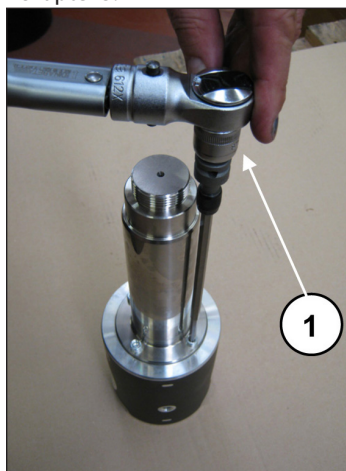

Fig. 44
Lock the piston guide in a vice with the aid of a special tool and calibrate the screws with a torque wrench (pos. ①, Fig. 44) as indicated in chapter 3.